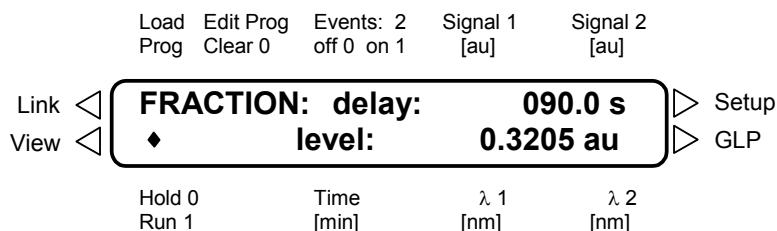

Fig. 9 Menu for setting up the fraction collector control
1. Enter the SETUP menu and proceed to the window FRACTION, see Fig. 9 on page 13.